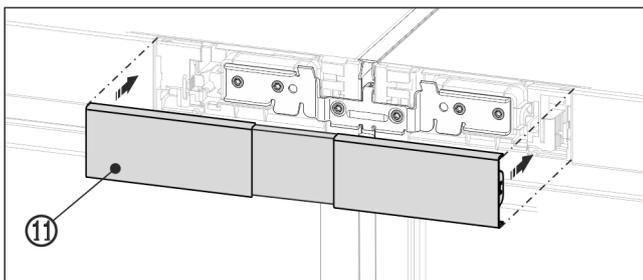

Fig. 24 Example illustration
- ▶ Snap the top cover Fig. 24 (11) onto the still open gap between the two control panel trims. Make sure that the outer sides of the cover form a flush finish with the control panel trims.